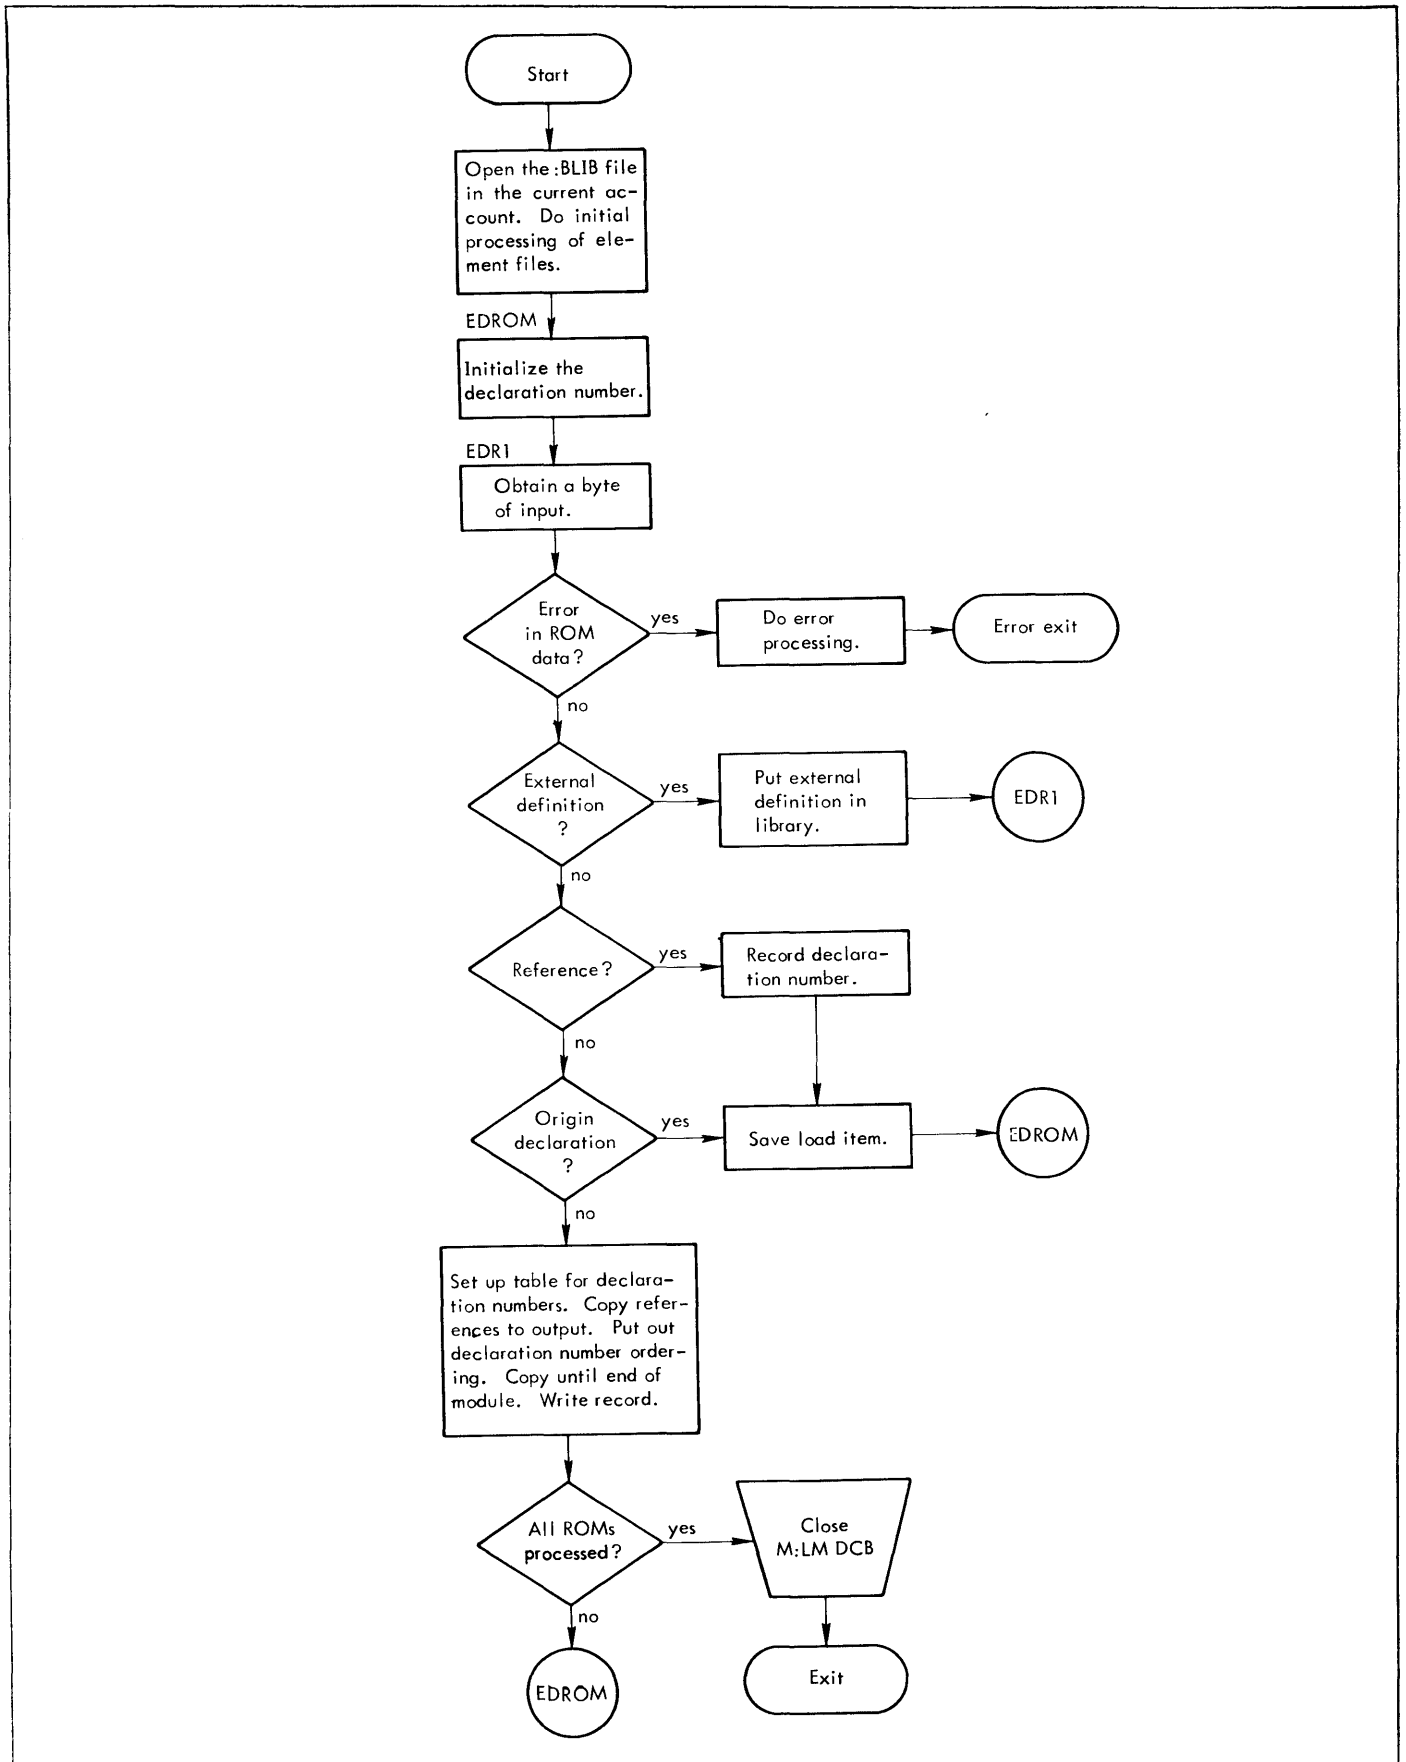

Figure 2-19. Flowchart for Library Modules
6. Flowchart. See Figure 2-19.